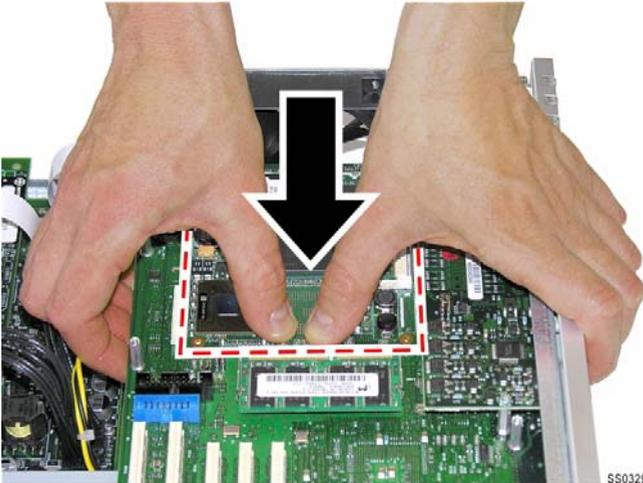

Figure 14: Seat the APC
5. To seat the connectors, grasp the main board with your fingertips and press down firmly on the middle of one side of the APC with your thumbs as shown. Repeat for the other side of the APC next to the fan (Figure 14). You should hear and feel the connectors seating themselves.